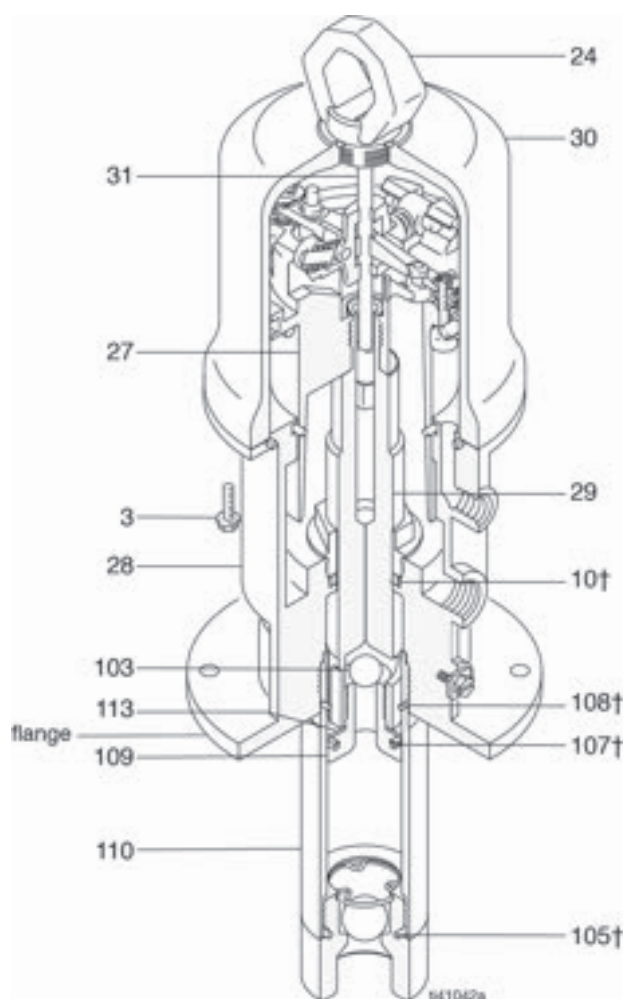

FIG. 3
Refer to FIG. 3 for the following instructions.
15. Grip the trip rod (31) with padded pliers, screw the lift ring (24) onto the trip rod, push the lift ring down, and screw it into the top of the cylinder.
16. Install the u-cup packing (107†) with the lips facing up, and place the piston washer (113) on the piston/valve seat (109). Make sure that the lips of the u-cup packing face up (FIG. 3).
17. Place the piston ball (103) in the piston rod (29).
18. Clean the threads of the piston/valve seat. Apply thread locking compound to the threads (109), and thread the assembly from step 16 onto the piston rod (29).